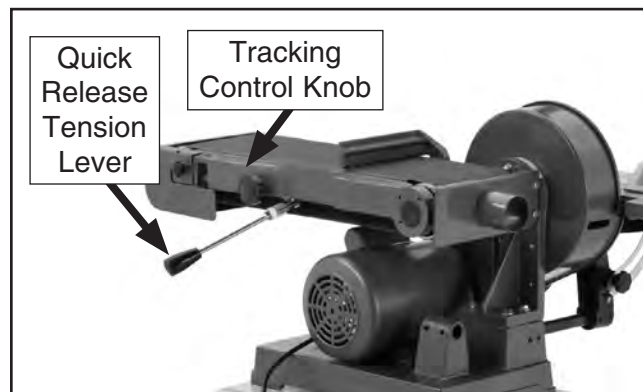

Figure 53. Belt tracking and tension controls.
2. Loosen the lock nut on the tracking control knob (see **Figure 53** on **Page 31**), then move the quick release tension lever to the tensioned position.
Belt Tracking and Tension: The quick release tension lever (see **Figure 53**) tensions the belt. To tension the sanding belt, move the quick release tension lever toward the motor.